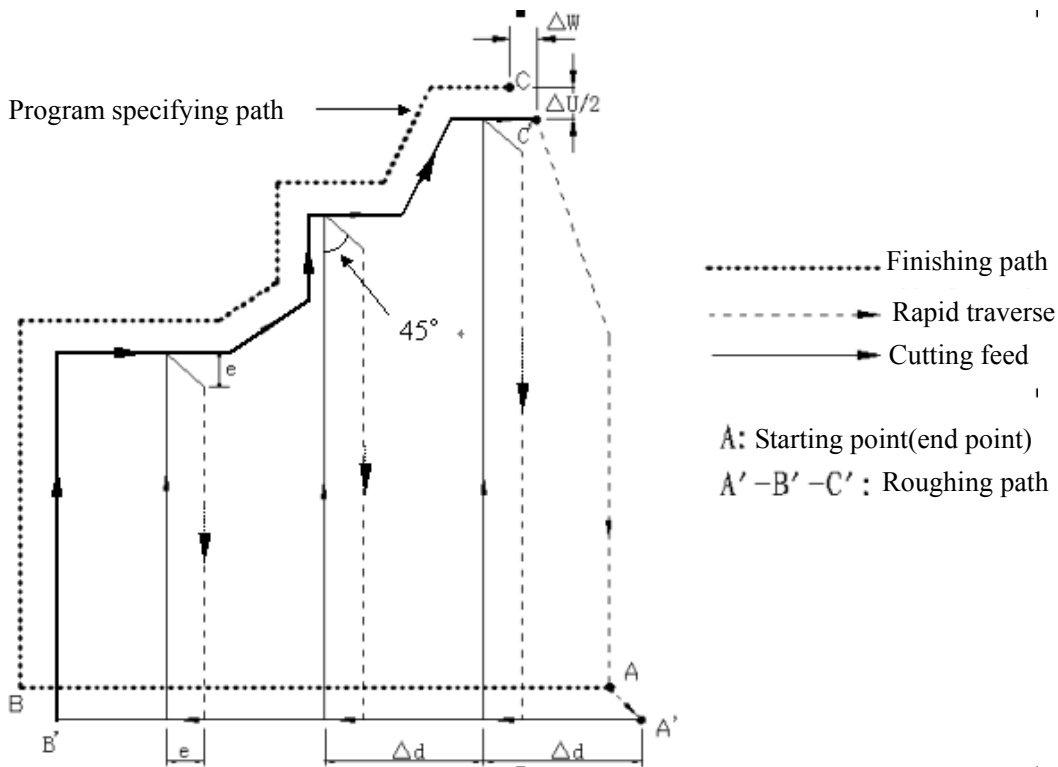

Fig. 3-23
**Execution process : Fig. 3-23**
- ① Rapid traverse to A'from A point, the travel in X direction is  $\Delta u$ , and the travel in Z direction is  $\Delta w$ ;
- ② The travel in Z direction from A'is  $\Delta d$ ( tool infeed), ns block is for tool infeed at rapid traverse speed with G0, is for tool infeed at G72feedrate F in G1, and its direction of tool infeed is that of A →B point;
- ③ Cutting feeds to the roughing path in X direction, and its direction is the same that of coordinates in X direction B→C point;
- ④ The travel of tool retraction is e (45° straight line)at feedrate in X, Z direction, the directions of tool retraction is opposite to that of tool infeed ;
- ⑤ Rapidly retract at rapid traverse speed in X direction to the position which is the same that of the coordinates in Z direction ;
- ⑥ After executing the tool infeed ( $\Delta d+e$ )again in Z direction, the end point of traversing tool is still on the middle point of straight line between A'and B'(the tool does not reach or exceed B'), and after executing the tool infeed ( $\Delta d+e$ )again, execute ③; after executing the tool infeed ( $\Delta d+e$ )again, the end point of tool traversing reaches B'point or exceeds the straight line between A'→B'point and execute the tool infeed to B'point in Z direction and the execute the next step;
- ⑦ Cutting feed from B'to C'point along the roughing path;
- ⑧ Rapidly traverse to A from C' point and the program jumps to the next clock following nf block after G71 cycle is completed.